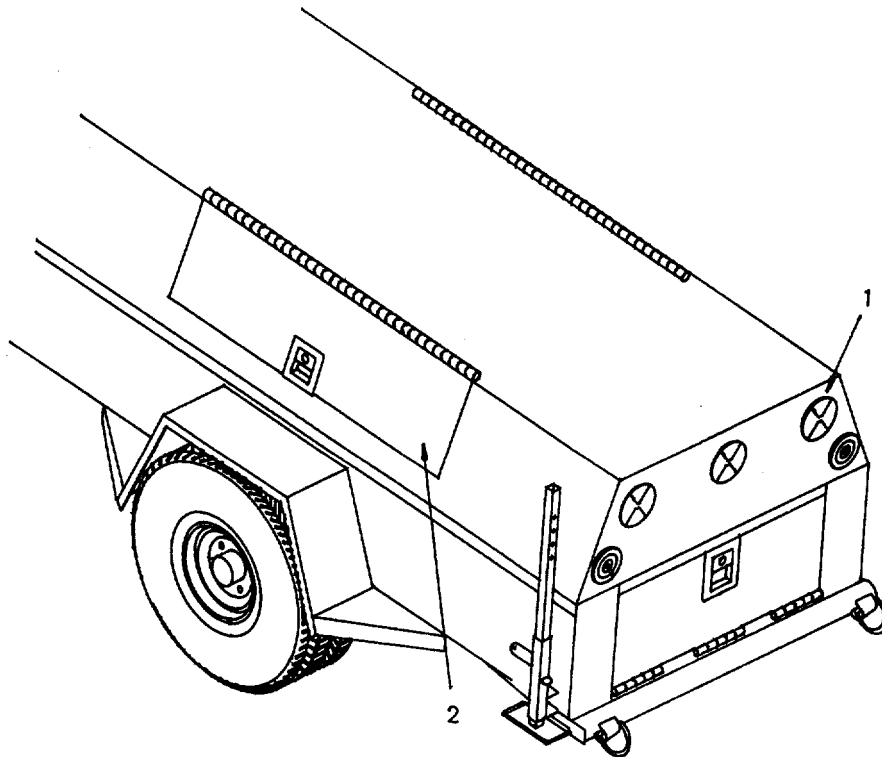

Figure 2-21. Trailer Vent Louvers.
- d. Open all three vent louvers (1, Figure 2-21) on rear of complete top hood assembly.
- e. Close all access doors (2) and latch.
- b. In unusually high ambient temperatures of 100 °F (38°C) or above it is necessary to provide additional ventilation by opening access doors (2, Figure 2-21) on each side.